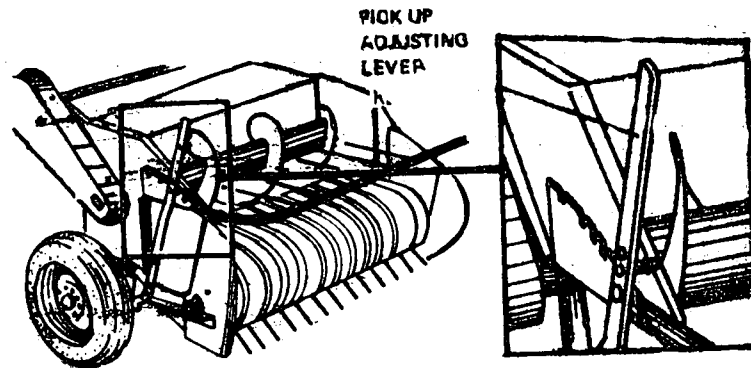

Fig. 2
- a) Height of the pick-up reel (Fig. 2).